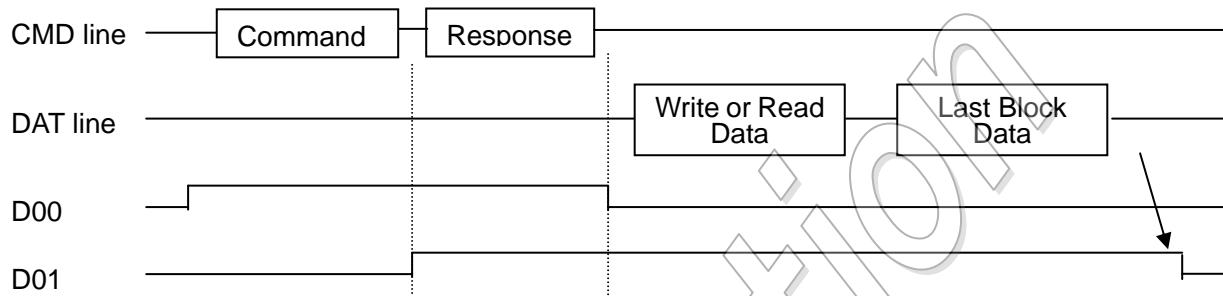
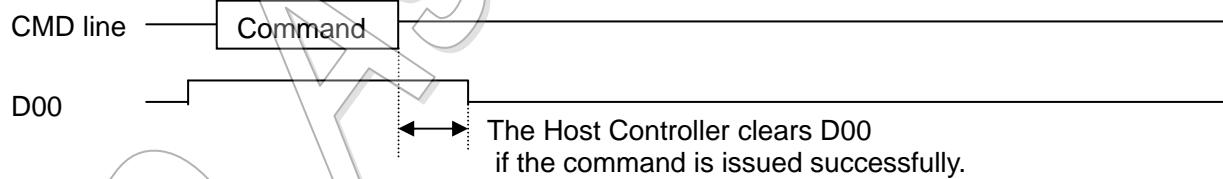

Figure 2-11 : Timing of Command Inhibit (DAT) and Command Inhibit (CMD) with Data Transfer
Figure 2-13 : Timing of Command Inhibit (CMD) for the Case of No Response Command
| | | <p>(1) When the end bit of the last data block is sent from the SD Bus to the Host Controller. In case of ADMA2, the last block is designated by the last transfer of Descriptor Table.</p> <p>(2) When a read transfer is stopped at the block gap initiated by a Stop At Block Gap Request.</p> <p>The Host Controller shall stop read operation at the start of the interrupt cycle of the next block gap by driving Read Wait or stopping SD clock. If the Read Wait signal is already driven (due to data buffer cannot receive data), the Host Controller can continue to stop read operation by driving the Read Wait signal. It is necessary to support Read Wait in order to use suspend / resume function.</p> <p>(b) In the case of write transactions</p> <p>This status indicates that a write transfer is executing on the SD Bus. Changing this value from 1 to 0 generate a Transfer Complete interrupt in the Normal Interrupt Status register. Refer to Section 3.12.4 for sequence details.</p> <p>This bit shall be set in either of the following cases:</p> <ul style="list-style-type: none"> (1) After the end bit of the write command. (2) When writing to 1 to Continue Request in the Block Gap Control register to continue a write transfer. <p>This bit shall be cleared in either of the following cases:</p> <ul style="list-style-type: none"> (1) When the SD card releases write busy of the last data block. If SD card does not drive busy signal for 8 SD Clocks, the Host Controller shall consider the card drive "Not Busy". In case of ADMA2, the last block is designated by the last transfer of Descriptor Table. (2) When the SD card releases write busy prior to waiting for write transfer as a result of a Stop At Block Gap Request. <p>(c) Command with busy</p> <p>This status indicates whether a command indicates busy (ex. erase command for memory) is executing on the SD Bus. This bit is set after the end bit of the command with busy and cleared when busy is de-asserted. Changing this bit from 1 to 0 generate a Transfer Complete interrupt in the Normal Interrupt Status register. Refer Figure 2-11 to Figure 2-13.</p> <table border="1" style="margin-left: auto; margin-right: auto;"> <tr> <td style="text-align: center;">1</td><td>DAT Line Active</td></tr> <tr> <td style="text-align: center;">0</td><td>DAT Line Inactive</td></tr> </table> | 1 | DAT Line Active | 0 | DAT Line Inactive |
Figure 2-11Figure 2-11 to Figure 2-13 shows the timing of setting and clearing the **Command Inhibit (DAT)** and the **Command Inhibit (CMD)**.